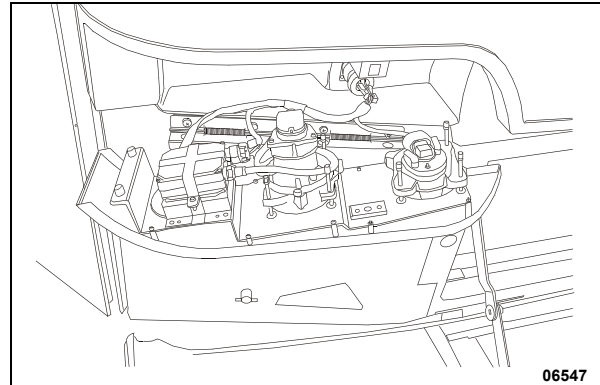

FIGURE 69: OPENING HEADLAMPS ASSEMBLY
Horizontal and vertical aiming of each headlamp module is provided by two adjusting screws that pivot the module in the housing for proper alignment (Figure 69).
2. Remove the screw fixing the headlamps assembly, then tilt headlamps assembly down (Figure 69).